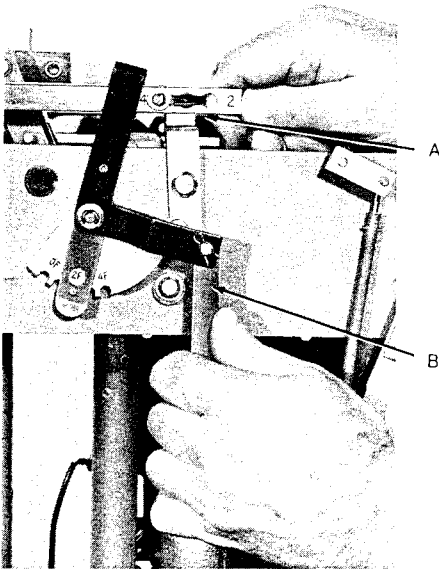

Figure 8.
- A. Hold the lockout piston linkage (B, Figure 8) and push out the lockout bar (A, Figure 8) to release the engagement.